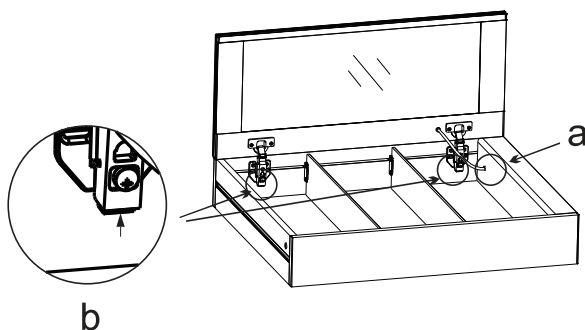

Fig.12
- 4.1.Loosen the plastic nut and take out the wire (a), hold down the two hinge cover base (b), remove the mirror door.Fig.12